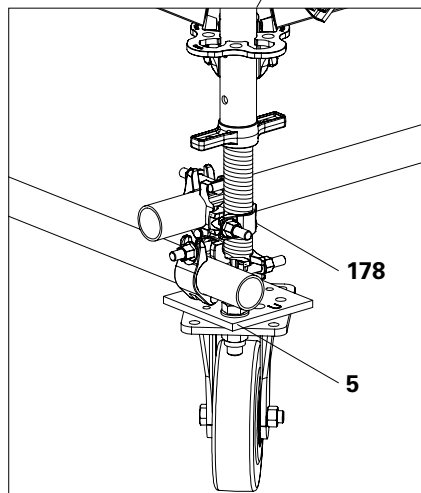
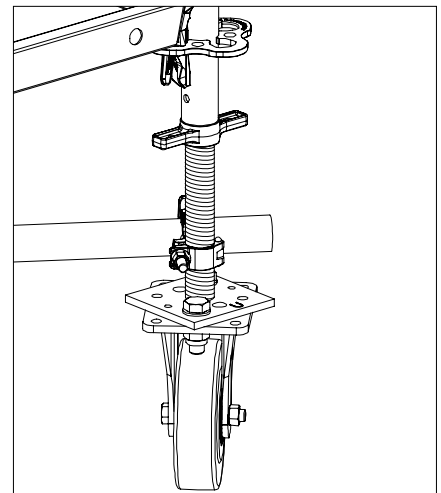

Fig. A1.07a
Fig. A1.08a
2. Screw the scaffolding tube with Swiv.Coup. EN 74 RS Ø38/48 mm ga (**178**) directly above the screw-on plate on the Adj. Base Plate. (Fig. A1.07a + Fig. A1.08a)